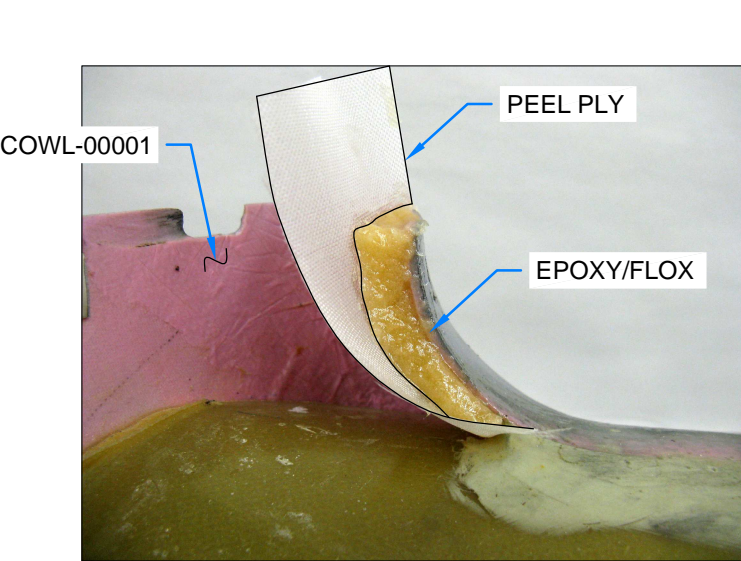
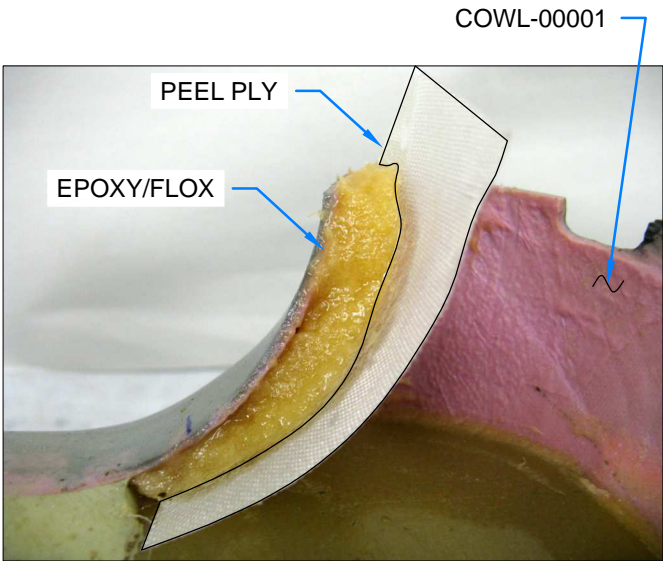

FIGURE 5: FLOX TOP COWL - RIGHT
FIGURE 6: FLOX TOP COWL - LEFT
Step 8: Apply a thick layer of epoxy/flox mixture to the roughened areas of the top cowl. Small pieces of peel ply can be used to keep the epoxy/flox in position. See Figure 5 and Figure 6.